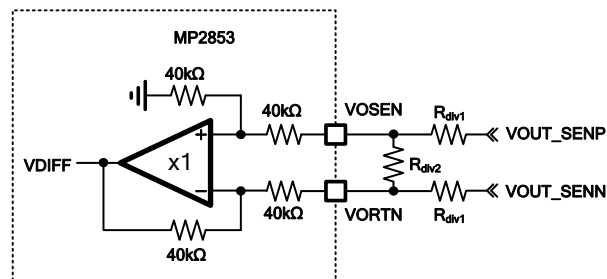

Figure 5: Output Divider Connections when Remote Sense is Applied
When $V_{OUT} > 3V$, the output voltage must be divided to the reference voltage within 1.55V. Figure 5 shows the typical connections for $V_{OUT} > 3V$ when remote sensing is applied.
VOUT_SENP and VOUT_SENN are from the load and must be routed as a differential pair on quiet areas. Calculate the voltage divider ratio in Figure 5 with Equation (2):